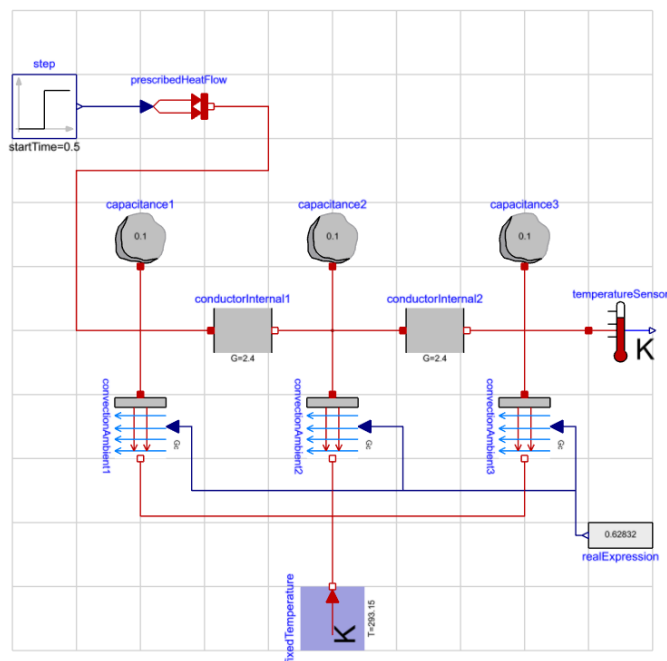

Figure 1 Thermal conductance model outline
HINT: *N* denotes the number of elements. How many of the different components should there be of each kind? Look at Figure 1 for clues.
6. Now it is time to connect the array components together from the source code editor. The general idea how we want to connect the components was outlined in Figure 1 Thermal conductance model outline. In summary we need to: